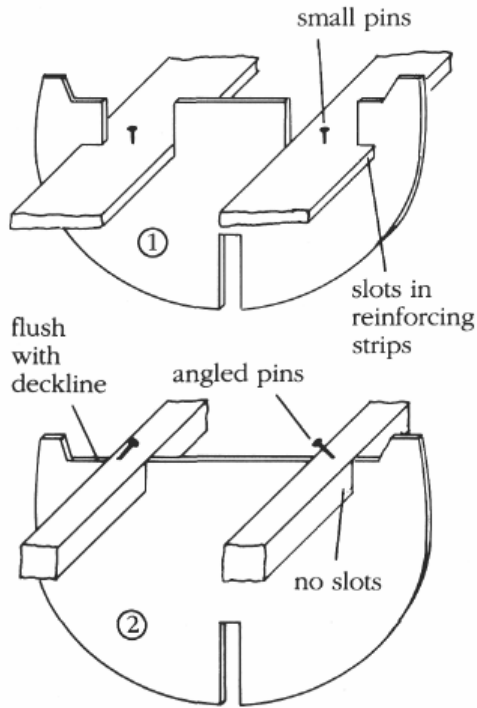

FIGURE 9. *Aligning frames with precut reinforcing pieces.*
reinforcing strips that drop into slots cut in the bulkhead frames. This approach ensures a stronger hull and easier assembly. Figure 9 shows the method used by Pan Art in the *Amerigo Vespucci* kit. Here two precut reinforcing spacers running the length of the hull and fitting snugly into the frame slots do a nice job of holding the parts together (1).